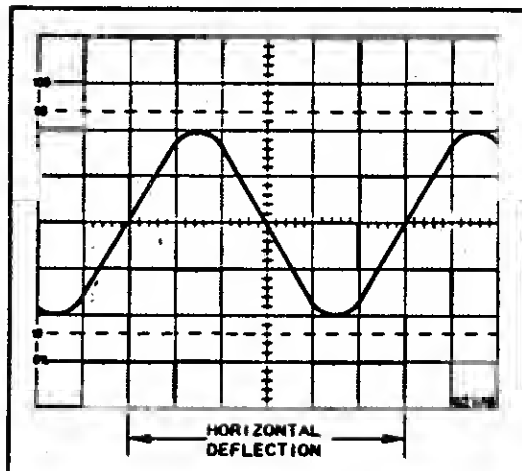

Fig 5-6
a. To measure the time of each cycle of the waveform shown in Fig 5-6 set the oscilloscope up as follows.
For the waveform shown in Fig 5-6 the Horz Defl = 6.1 div, assume the SEC/DIV is 2msec and magnifier to x1
Using the waveform in Fig 5-6 and the example on 5.9f. which determined a period of 12.2msec